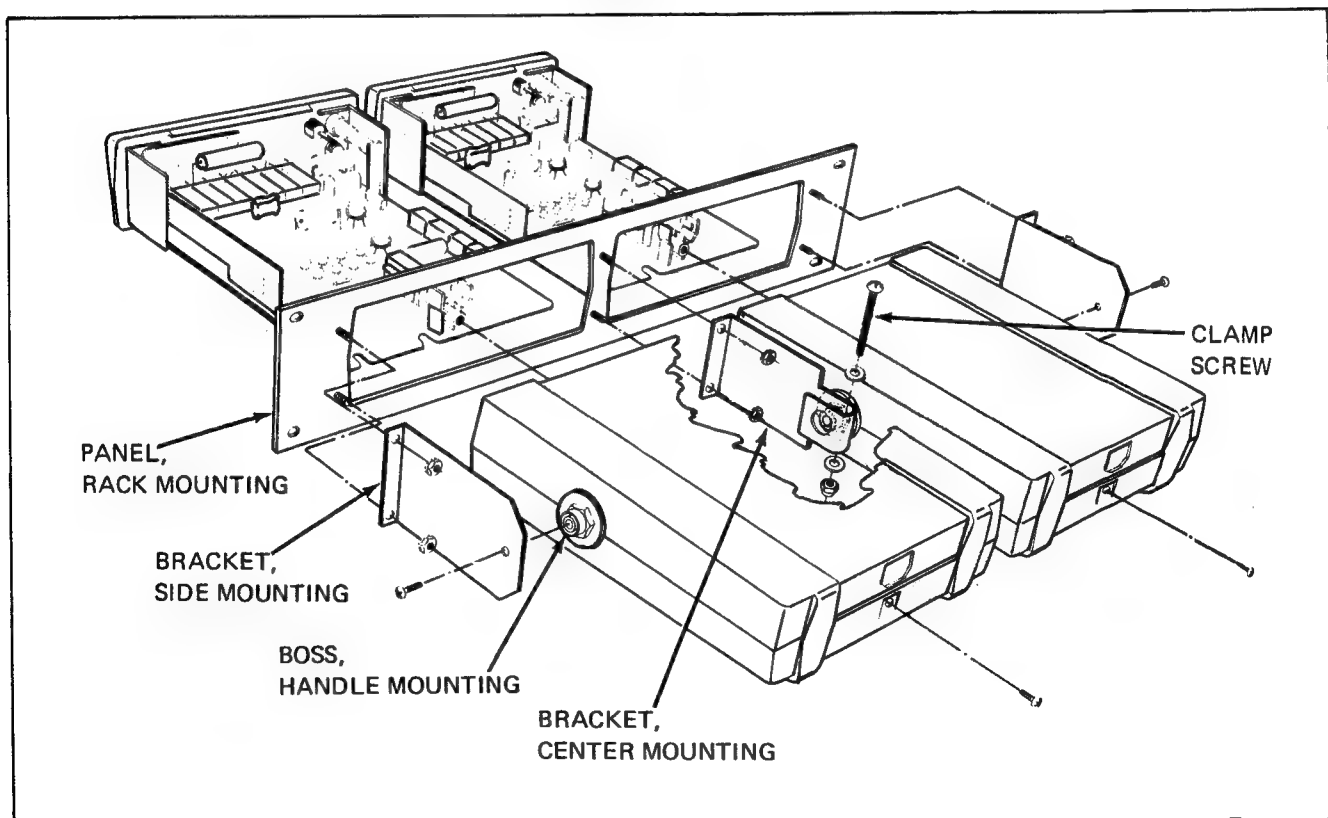

Figure 600-5. Rack Mounting Kit, Side-by-Side Mounting
1. Remove the carrying handles from both multi-counters by removing the handle disc decals and the handle mounting screws (Figure 600-5).
3. Install the center mounting bracket, as shown in Figure 600-5, and secure it to the mounting panel using the nuts provided.